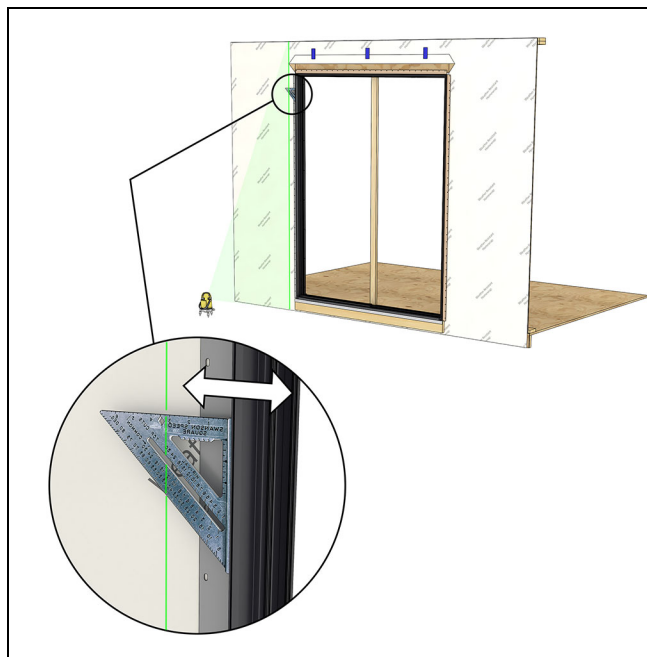

Figure 46
2. Use a laser level and speed square to plumb the jamb. Move the jamb left to right until square. See Figure 46.